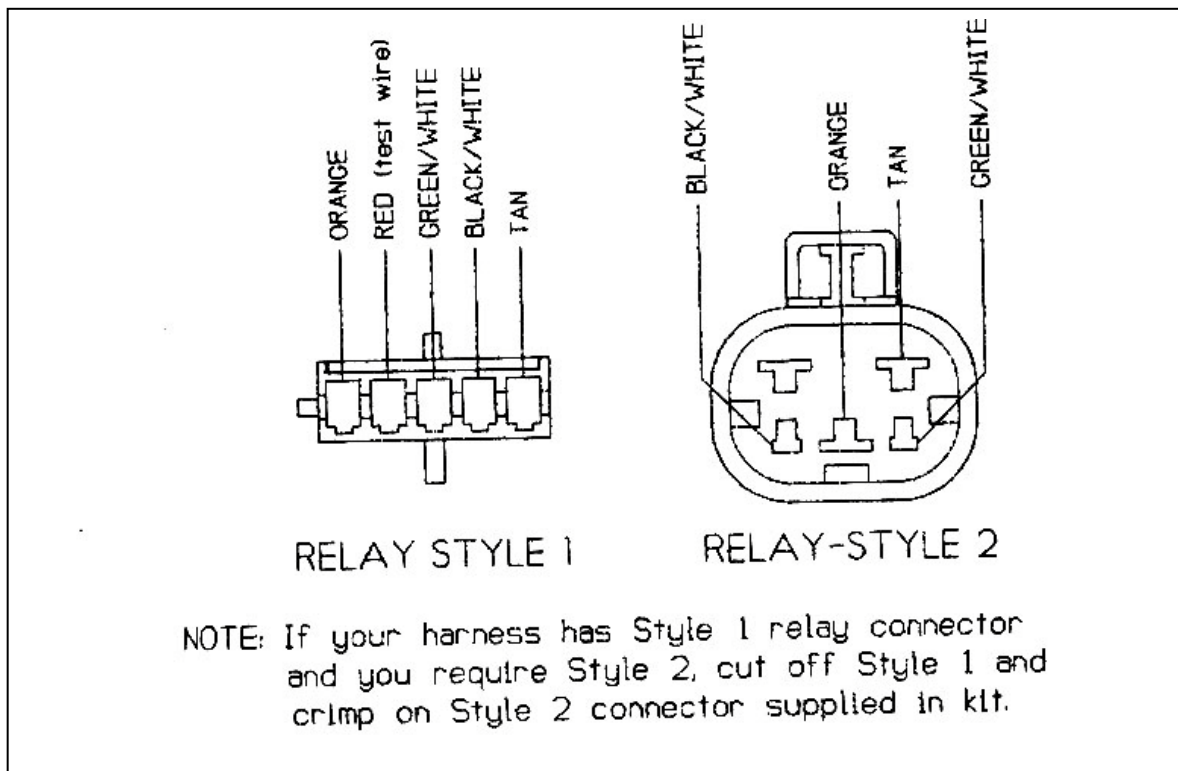

Figure 4.3 Fuel Pump Relay Connector
- The fuel pump relay connector on the harness requires a style 1. A style 2 relay may be substituted. See **Figure 4.3** for illustration and **Table 4.1** for part numbers.